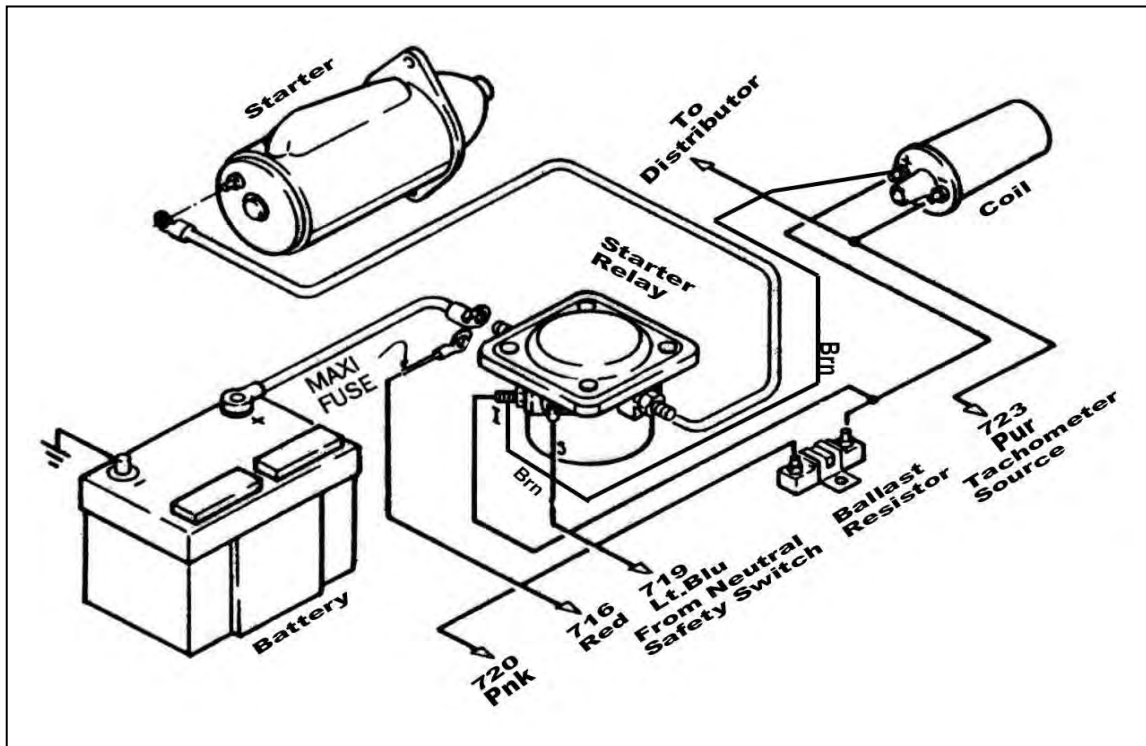

Figure 10.1 Ford Ignition (Start/Run) System
- 10.2 Ford Ignition (Start/Run) System. See Figure 10.1.